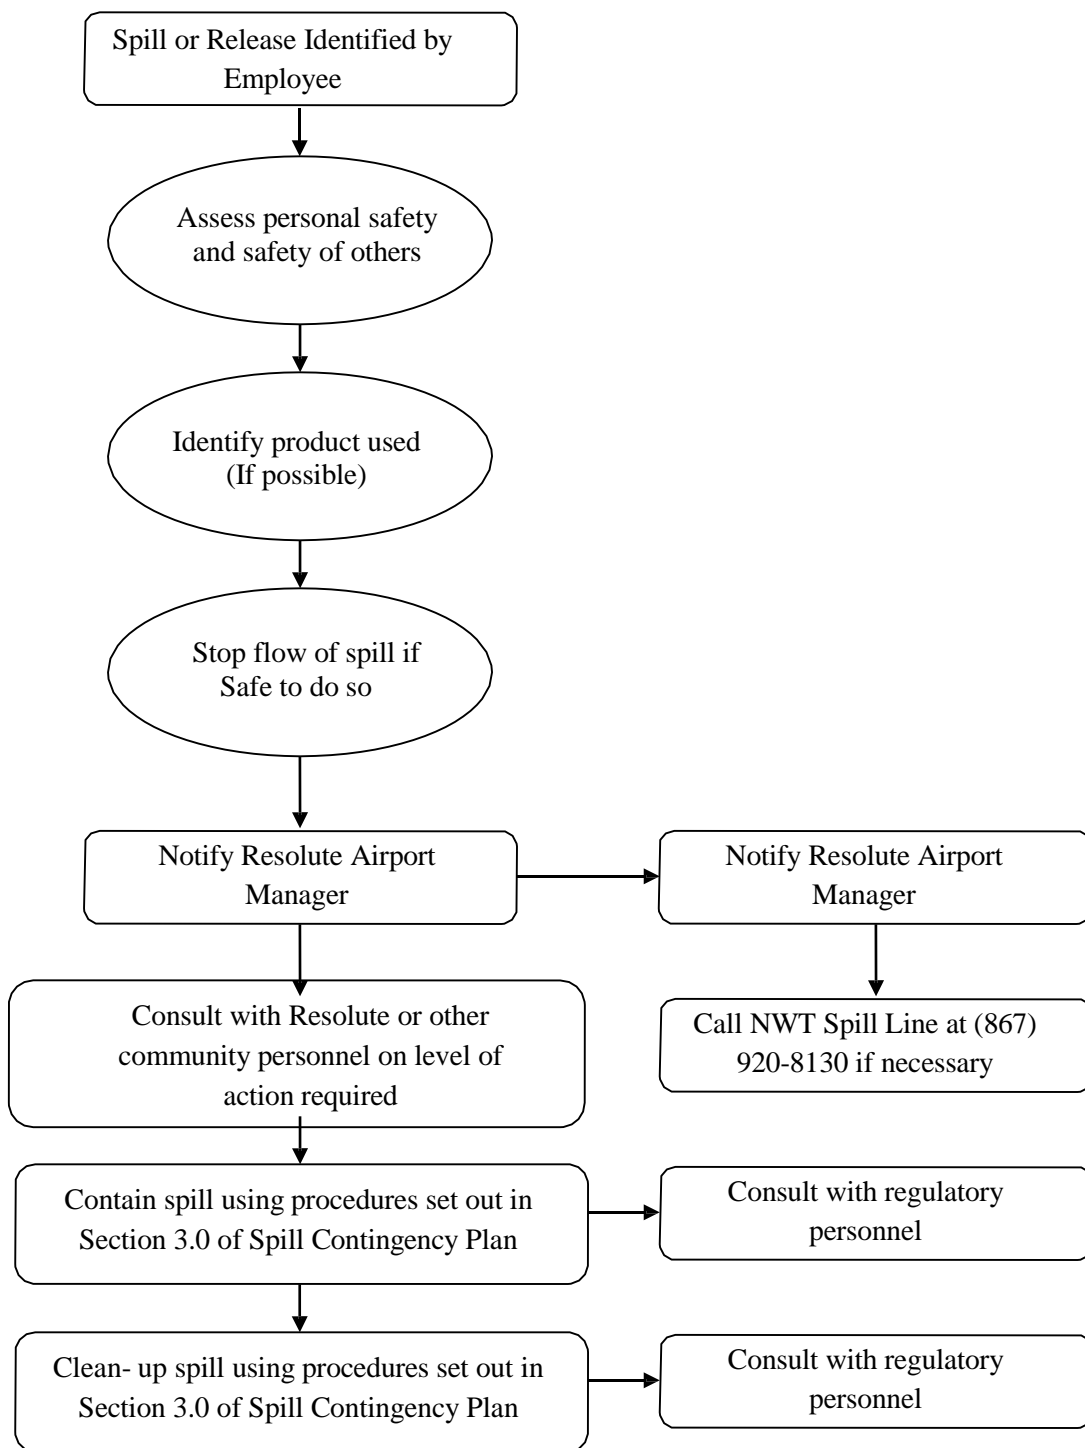

Figure 5: Flowchart of Spill Communication Lines
- Contact GN-ED&T Resolute Airport Manager/Director, as per flowchart in **Figure 5**.